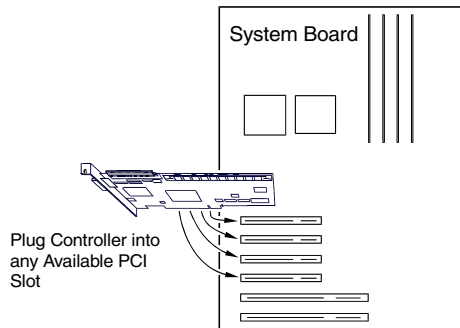

Figure 3. Plugging the AcceleRAID 150 or 250 into a Standard PCI Slot
3. Plug the AcceleRAID 150 or 250 controller into an available PCI slot (see Figure 3).